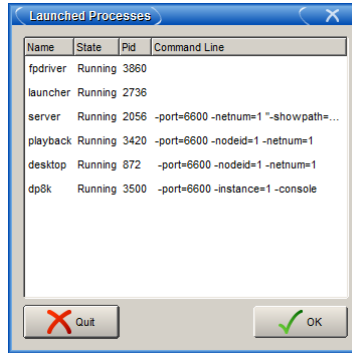

Figure 37.1. The Launched Processes window
1. Pig + Open + Backspace : open the Launched Processes window; see *Figure 37.1, "The Launched Processes window"*.